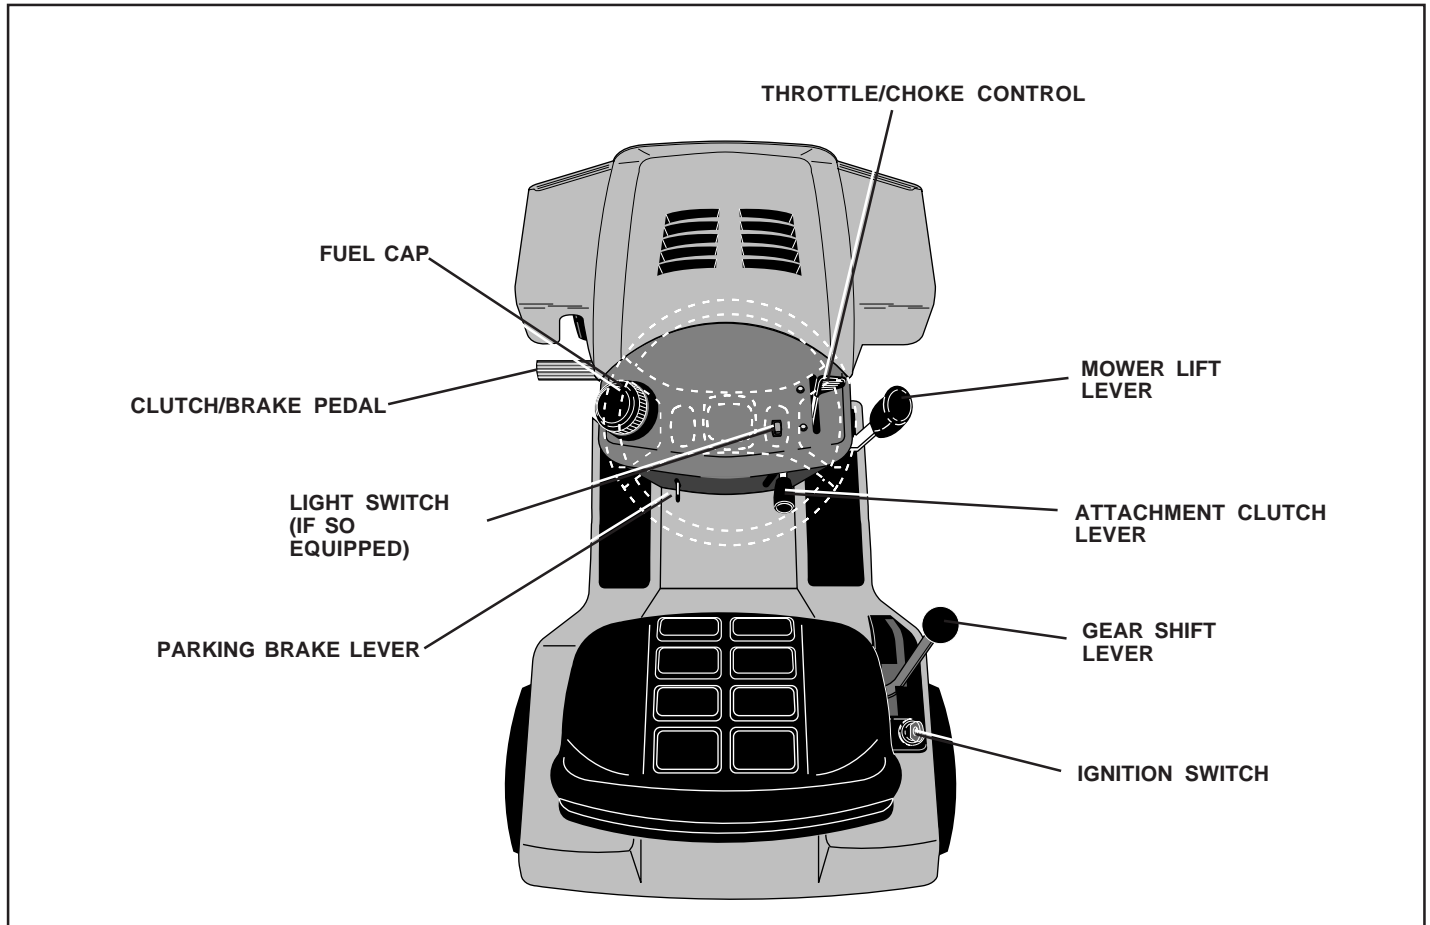

FIG. 5
- Slide seat until a comfortable position is reached which allows you to press clutch/brake pedal all the way down (See Fig. 5).
TO START ENGINE (See Fig. 5)